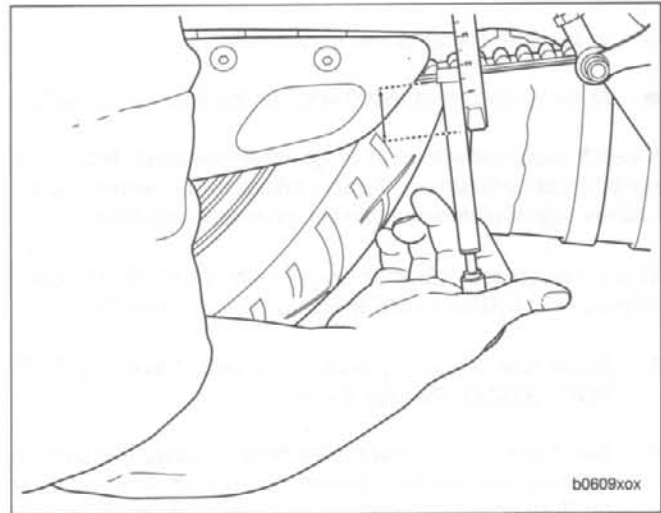

Figure 1-39. Belt Deflection
4. See Figure 1-39. Apply 10 lbs of force using BELT TENSION GAUGE (Part No. HD-35381) at the midpoint of the belt's bottom strand. The deflection should be upward as shown.